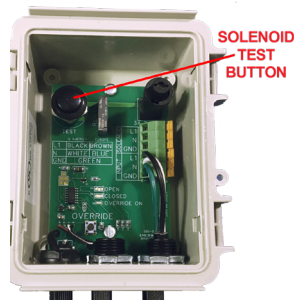

Figure 4
Step 2: Plug the solenoid module into the applicable electrical outlet. At this stage, the functionality of the solenoid valve can be tested by pressing the solenoid test button located on the upper left of the circuit board. Manually depressing (and holding) this button will complete the electrical circuit and will open the normally closed solenoid valve. You should be able to hear the activation of the solenoid valve at this stage to ensure the valve is functioning properly (see Fig. 4).